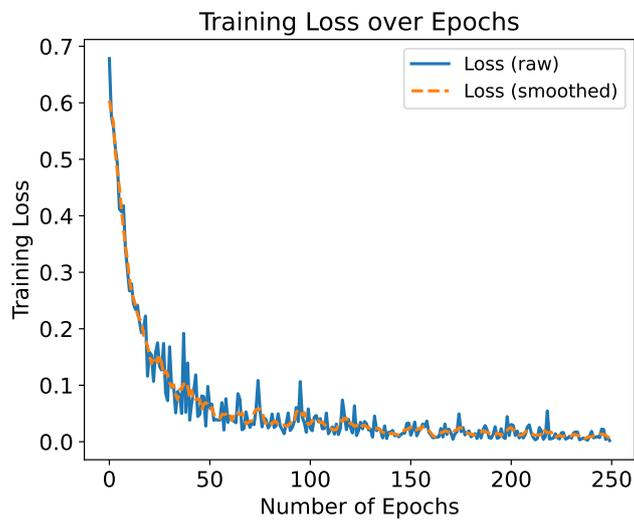

Figure S14: Training Loss vs. Number of Epochs for YOLO classification model
- Fig. S14 S15 S16 show training loss, validation loss, and accuracy of the classification model respectively.